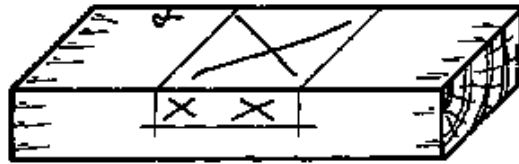

Fig. 3
- Square the lines across the side and halfway down the edges with a try square. Mark the waste (Fig. 3, previous page).
- With the same setting, gauge the depth of the socket on both edges and mark the waste (Fig. 3, previous page).